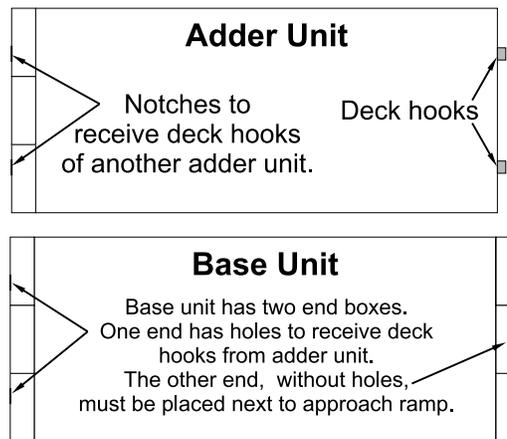

Figure 3
4. The XT Series truck scale platforms come in two configurations: the base unit and the adder unit. If you have a simple, 4-Weigh Bar scale, you will receive just a base unit. For each platform you add you will receive an adder deck. See Figure 3.